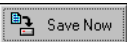

**Figure 15: System Options Tab - Alarm Control OFF**
- To enable Alarm Control, click on the Setup ⇒ System pull-down menu or click the  button on the tool bar. Click on the **System Options** tab followed by the  button. The System Options window should look similar to Figure 15.